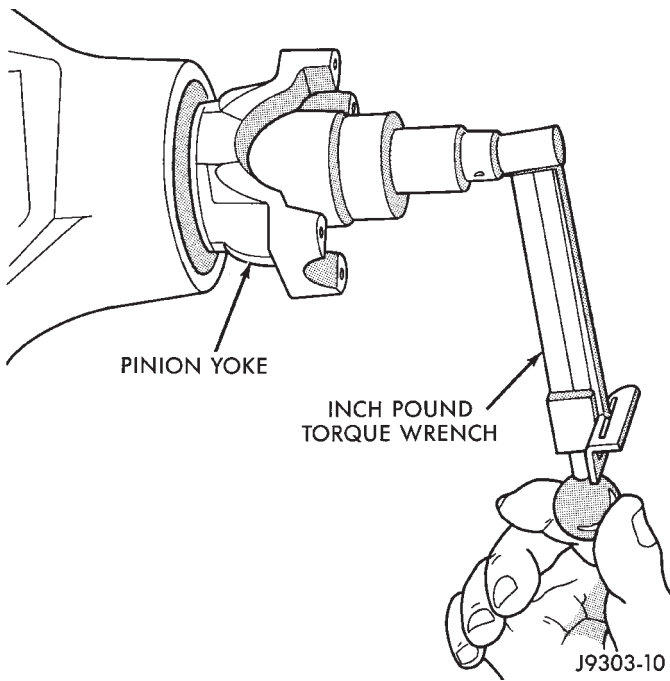

Fig. 16 Check Pinion Rotation Torque
(10) Rotate the pinion shaft using an (in. lbs.) torque wrench. Rotating torque should be equal to the reading recorded during removal, plus an additional 0.56 N·m (5 in. lbs.) (Fig. 16).